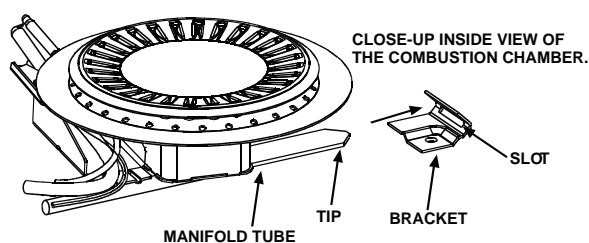

FIGURE 27.
3. Insert the new manifold/burner assembly into the burner compartment, making sure that the tab of the manifold tube engages the slot of the bracket inside the combustion chamber (Figure 27).